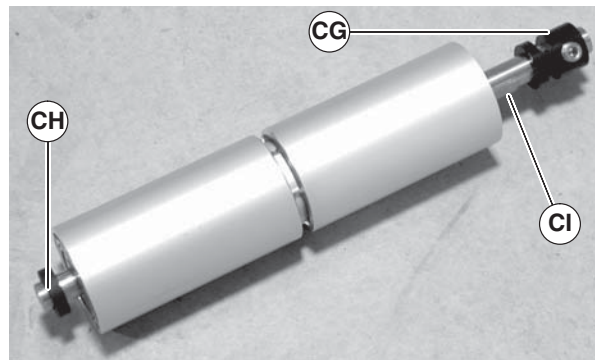

Figure 68
8. Remove the tension pulley locking collar (Figure 68, item CG), spacer (CH) and pulley shaft (CI) from the roller pulley shaft assembly.